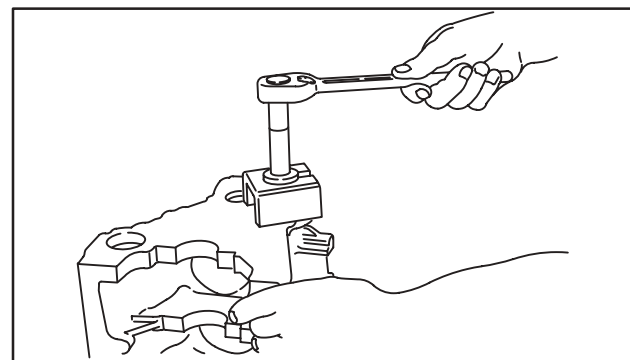

Fig. 6 – Removing Cam Bearing
1. Remove camshaft bearing, Fig. 6.